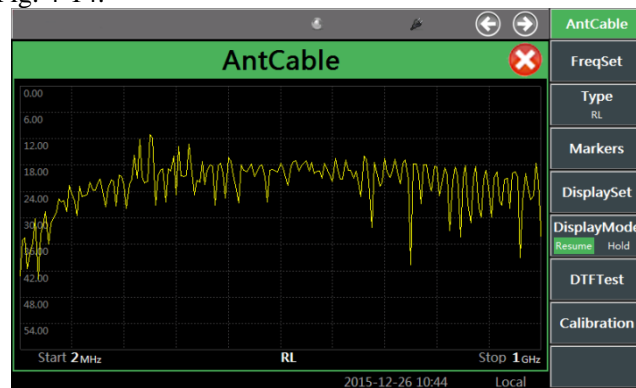

Fig. 4-14 Return Loss Test Results
- Calibration: click the [Calibration] soft key in the right menu and then click [Start Calibration]. Connect the calibration kit according to the prompt. After calibration, connect the tested cable to the test instrument, and then connect the matching load to the cable end. The measured return loss curve will be displayed on the test instrument, as shown in Fig. 4-14.